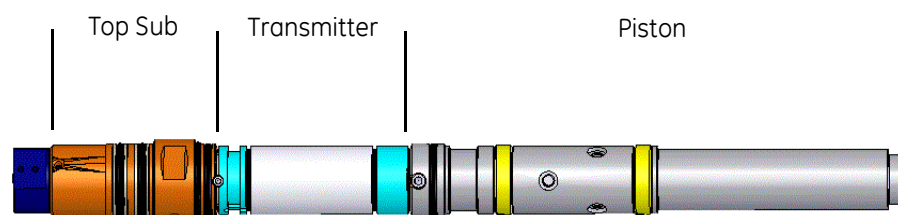

Figure 5-9 Tx Short and Piston Mandrel Parts
- 5 Remove and discard the O-Ring (item 42) and check the two Back-up Rings (item 37) fitted on the Tx Short and Piston Mandrel (item 19). Replace Back-up Rings when damaged.
- 6 Detach the Retaining Ring (item 24) and remove the two Tx Can Collars (item 8).
- 7 Remove and discard the lower O-Ring (item 47) and slide off the Transmitter Can (item 2) over the lower end of the Tx Short and Piston Mandrel (item 19) held in position with the two O-rings (item 43).
Note: The Tx Short and Piston Mandrel (item 19) consists of three parts, refer to Figure 5-9. The parts will be referred to as 'Top Sub', 'Transmitter' and 'Piston' for the remainder of this section.
- 1 To assemble the Sonde Main Harness (item 52) top connector:
- i. Check the condition of the Sonde Main Harness (item 52). In particular the 19-pin connector (P/N: 8-1-00-BULK19PI).
- iii. Thread the Sonde Main Harness (item 52) through the 'Top Sub' part of the Tx Short and Piston Mandrel (item 19).
- iv. Fit the Sonde Main Harness (item 52) top connector into the 'Top Sub' part of the Tx Short and Piston Mandrel (item 19).
- v. Carefully thread the Sonde Main Harness (item 52) pressure nut into the 'Top Sub' part of the Tx Short and Piston Mandrel (item 19) without damaging the Sonde Main Harness wires.
- vi. Fit the Set Screw (item 31) to hold the Sonde Main Harness (item 52) pressure nut in position.
- vii. Screw together the 'Top Sub' and 'Transmitter' parts of the Tx Short and Piston Mandrel (item 19).
- viii. Fit the three Screws (item 57) to hold the 'Top Sub' and 'Transmitter' together.